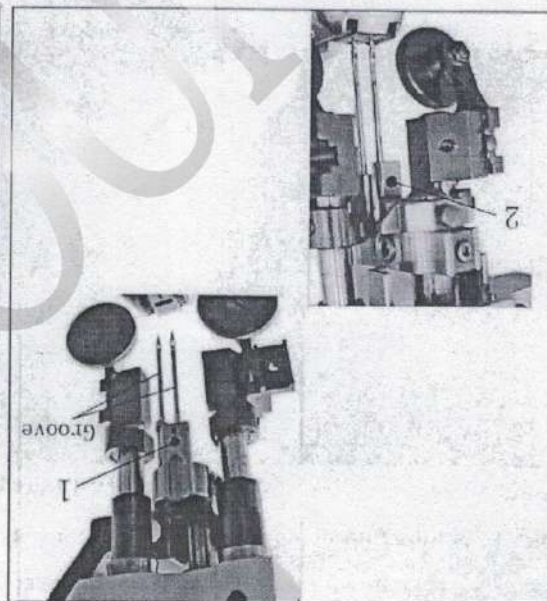

Fig.10
4.1 Needle replacement and adjusting the height of the needle rod (Fig.10)